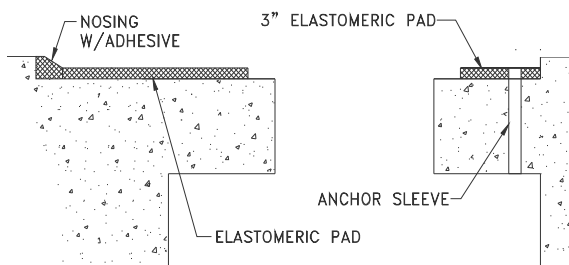

Figure 15
**STEP 32.** If adhesive is used, firmly press the nosing into the adhesive to adhere it to the concrete. Ensure that the nosing is straight, level, and properly aligned (see Figure 15).